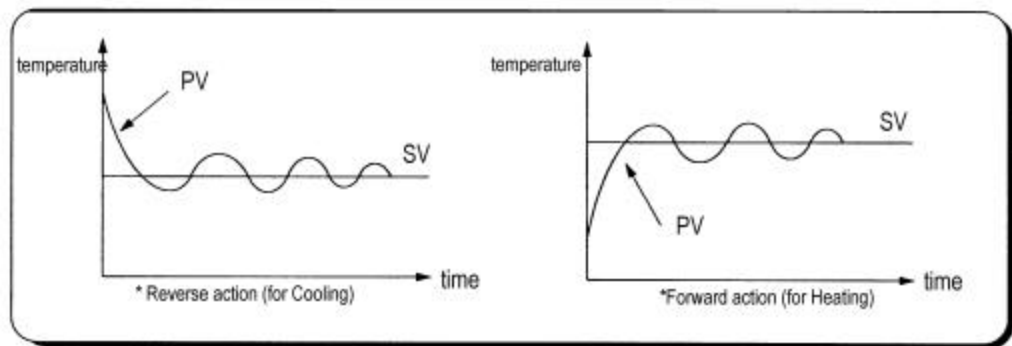

Fig. 2-10 PV of forward / reverse action
- (e) Fig 2.10 shows examples of process control by forward and reverse actions, respectively.